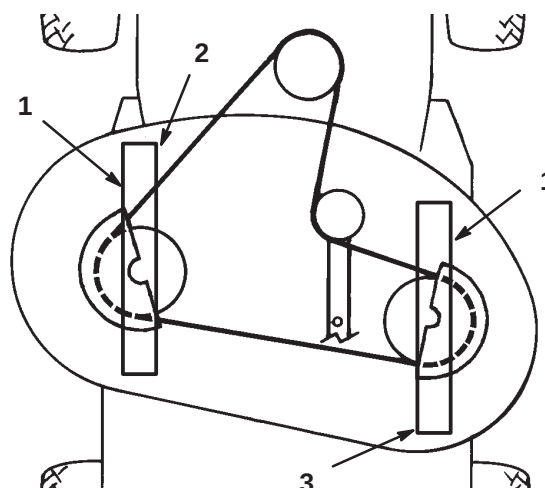

Figure 11
4. Carefully rotate blades so they are facing front and rear (Fig. 11).
5. Measure between the tip of the front blade (Fig. 11), and the tip of the rear blade to the flat surface. If the front blade tip is not 0–1/8" (0–3.2 mm) lower than the rear blade tip adjust front adjustment link.